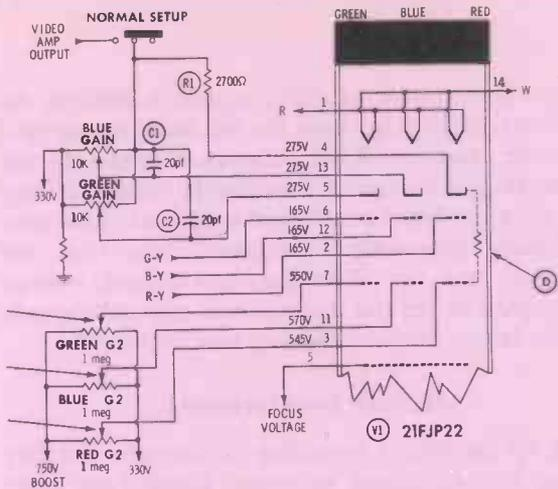

Fig. 2. Interelectrode leakage affects gray-scale adjustment.
**Step 4:** Check voltages at G2 controls (points A, B, and C, Fig. 2).
last resort. Explanation for this symptom is difficult. As Fig. 2 shows, leakage between the red beam screen grid and cathode caused all three cathodes to follow the red beam screen-grid voltage. Grid-cathode voltage is very critical when the beam conduction is low, as is the case when making gray-scale adjustments. The blue and green beams were cut off by increased cathode voltage which resulted as the red beam screen-grid voltage was increased; hence, proper tracking was impossible.